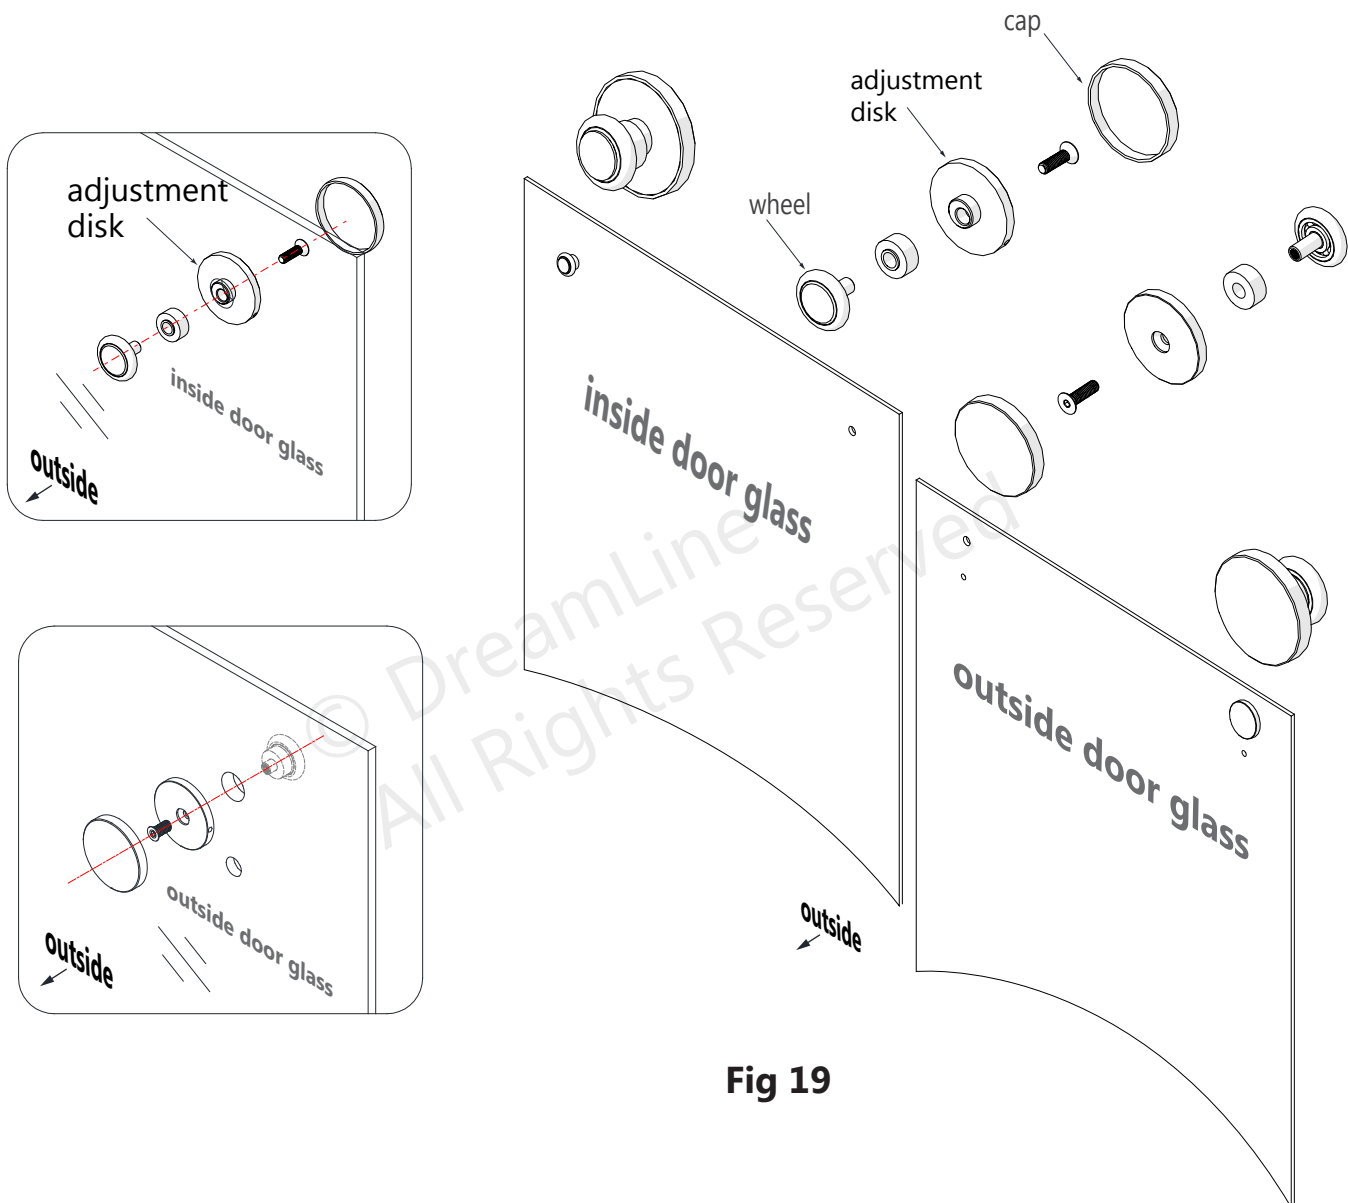
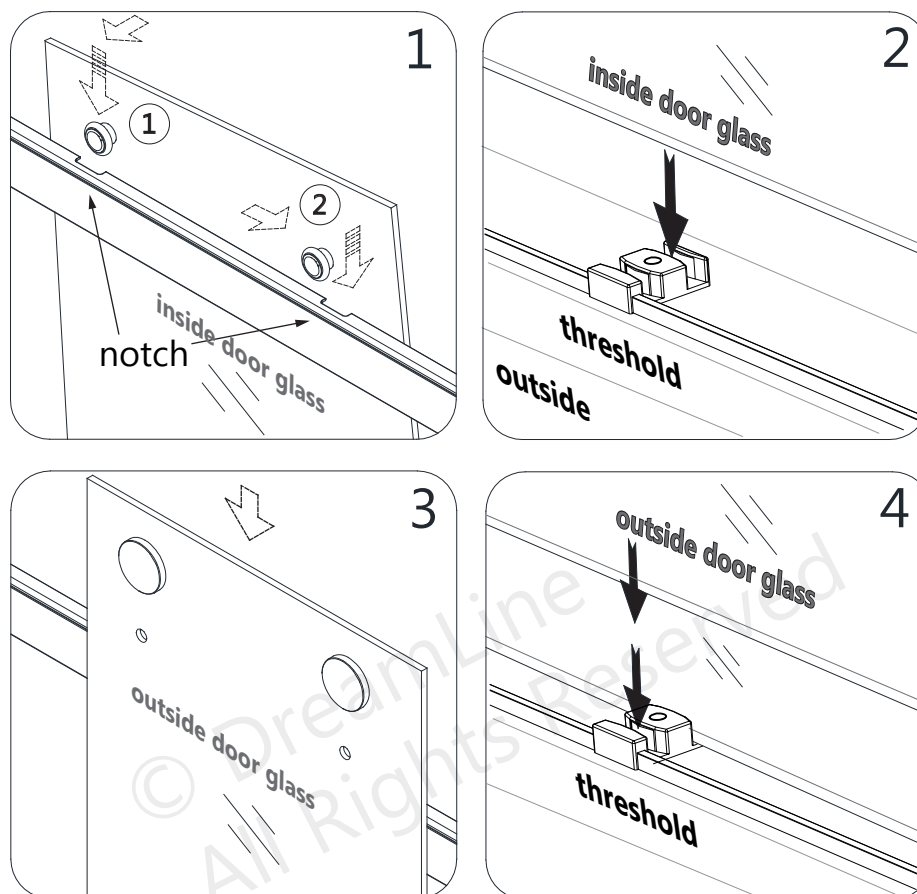

Fig 19
Fig 20
19. Remove the cap and screw from the **Roller Assembly (#04)** and attach the **Roller Assembly (#04)** to the **Inside Door Glass (#12)** and to the **Outside Door Glass (#13)**. (**Fig 19 and Fig 20**)